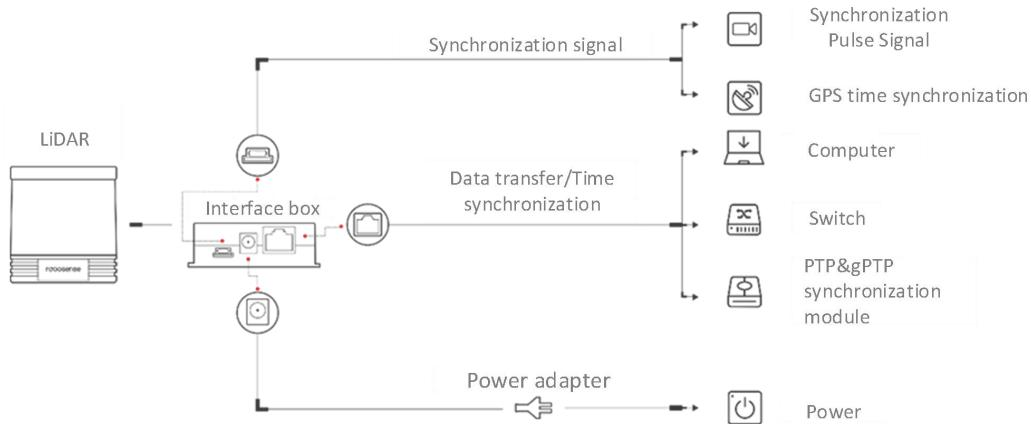

Figure 11 Interface Box Connection Diagram
The connection method is shown in Figure 11 .
- 1) The time synchronization module (PTP & gPTP, GPS time synchronization module) is not included as a standard product. If you need to use these features, please purchase them separately and follow the connection method shown in Figure 11 .